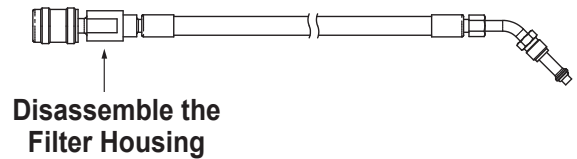

Figure 18
2. Disassemble the tank fill hose at the filter housing as shown in Figure 18.